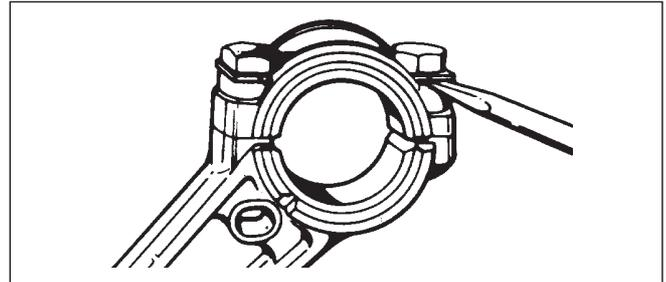

Fig. 54
- Secure screws with lock tab already fitted (Fig 54).